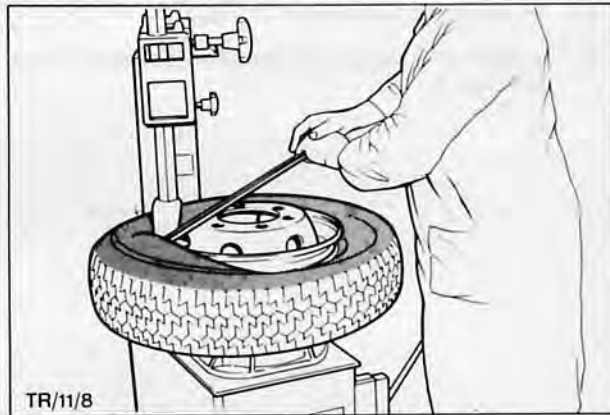

Fig. 8. Removing tyre
3. Remove tyre from wheel equipment according to manufacturers instructions, Fig. 8. Cut off old valve assembly.